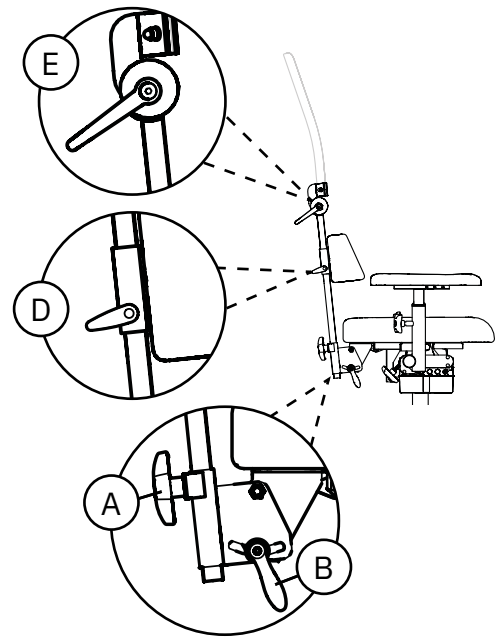

Figure 5.9. High Backrest with adjustable cushion and headrest in Makrolon.
The Standard X-ray backrest mechanism’s back support is adjustable in terms of height (A) and the angle of the backrest mechanism is adjustable (B). The back support also has a height-adjustable lumbar support cushion (D) and an angle-adjustable headrest (E) (see Figure 5.9).